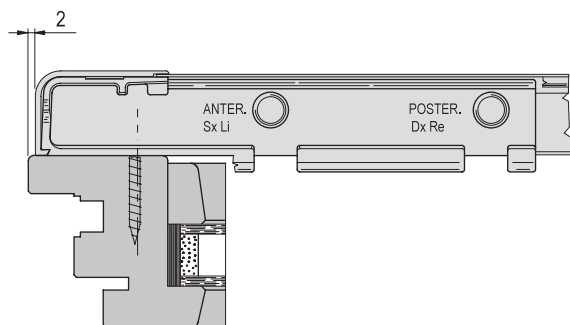

fig. 2
- 1) Adjust the carriage drilling jig, art. M02030.00.02 (a), keeping in mind that, when  $X = 34$  (fig. 1), the carriage cover remains at 2 mm distance from the sash rebate edge (fig. 2).